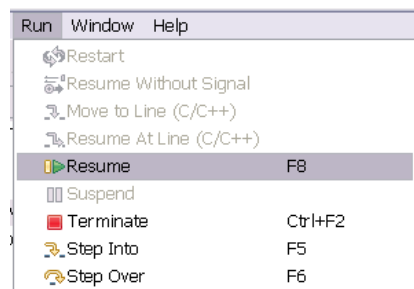

Figure 51 Select Resume
5. From **Run** menu select **Resume**, as shown in Figure 51.